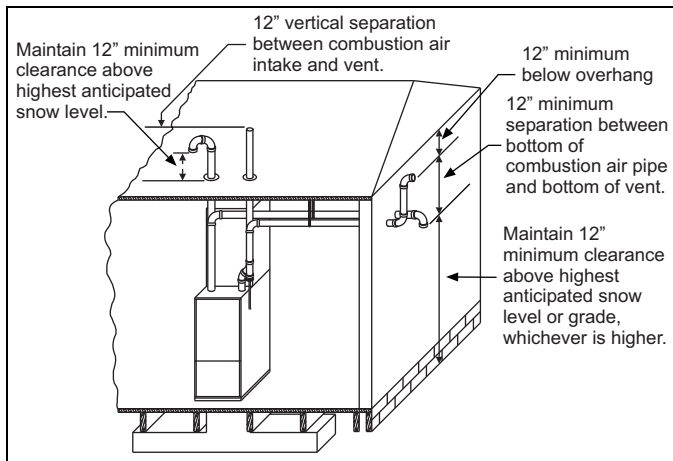
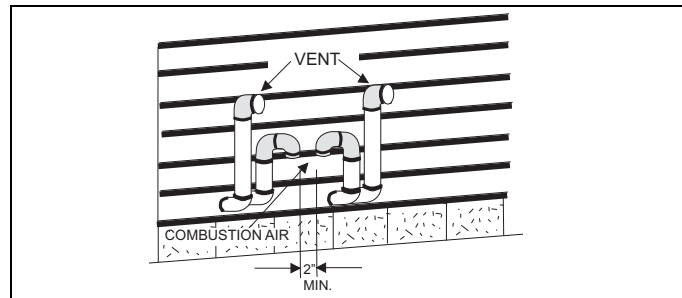

FIGURE 31: Termination Configuration - 2 Pipe
FIGURE 33: Double Horizontal Combustion Air Intake and Vent Termination
7. Direct vent systems must be installed so the vent and the combustion air pipes terminate in the same atmospheric zone. Refer to Figures 31 or 32.
The combustion air side of the two-pipe configuration shown in Figure 31 can be installed so the combustion air pipe terminates as described in outdoor combustion air or ventilated combustion air sections in these instructions. Follow the instructions for outdoor combustion air or ventilated combustion air and the instructions for installing the vent system with the vent terminating as shown in Figures 33 or 34. The two-pipe system must have a separate combustion air pipe and a separate vent pipe for each furnace. Under NO circumstances can the two combustion air or vent pipes be tied together. The combustion air and vent pipes must terminate in the same atmospheric zone.